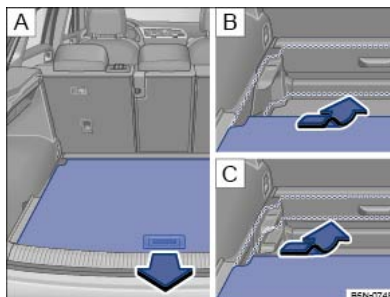

Fig. 183 In the luggage compartment: adjusting the height of the luggage compartment floor.
- Lift the luggage compartment floor and pull it rearwards out of the guides on the sides of the luggage compartment $\Rightarrow$ *Fig. 183* **A**.
- Insert the luggage compartment floor into the guides at the required height and push it forwards as far as it will go $\Rightarrow$ *Fig. 183* **B**, **C**.